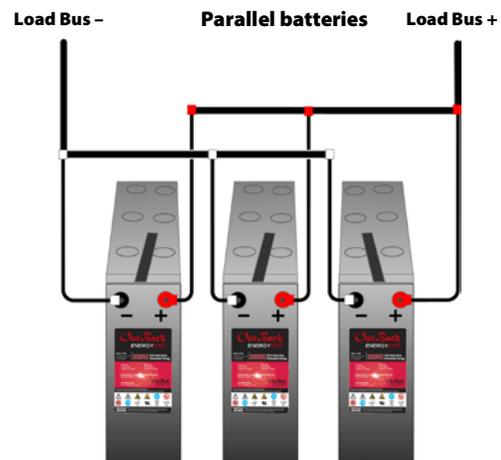

Figure 6 Parallel String Configuration
3. In normal configurations, the battery on the far right will be the positive (+) output for that string. This battery should be designated ①. Proceeding to the left, adjacent batteries in that string should be designated ②, ③, and so on.
8. Install parallel connections. Parallel connections are made from the positive terminal of one battery or string to the positive of the next; negative connections are made similarly. (See Figure 6.) External cables or bus bars must be provided. The interconnect included with the battery cannot make parallel connections.